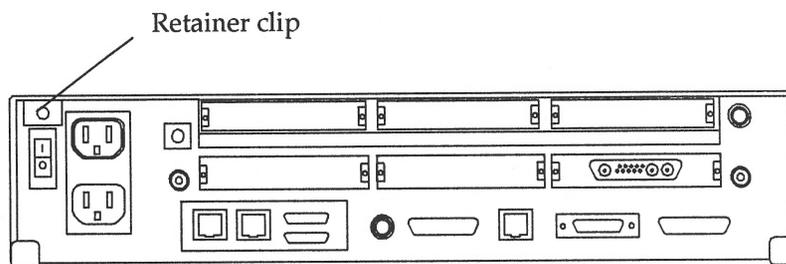

Figure 3-2 Location of Retainer Clip (Back Panel)
3. Press the retainer clip with a Phillips screwdriver while you loosen the cover from the back panel with your other hand. Refer to Figure 3-2 for the location of the retainer clip.